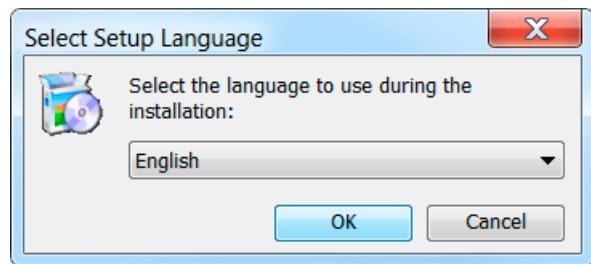

Figure 8-3. Select Language for Software
4. From the drop-down menu shown in Figure 8-3, select the language in which to display the software and click **OK**.